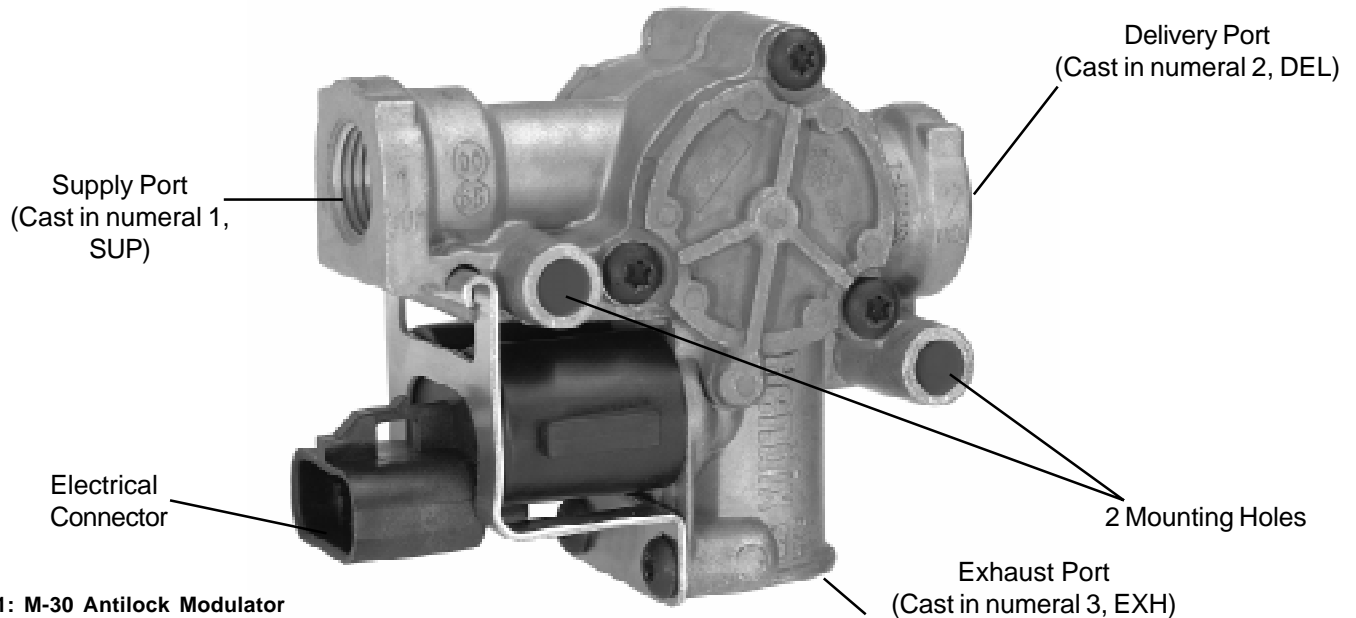

Figure 1: M-30 Antilock Modulator
1. Identify and mark or label all air lines and their respective connections on the modulator to facilitate ease of installation (refer to figure 1).
When replacing a M-21 modulator with a M-30 modulator, the following must be considered during the installation process: Study figures 1, 2, & 3 and note where the exhaust port is located on both the M-21 and M-30. **The exhaust on both modulators must be directed toward the road surface when mounted on the vehicle.** Note that the delivery port (to the brake chamber) for the M-21 is on the same side as the electrical connector. The M-30 is exactly reverse of this with the delivery port on the opposite side of the electrical connector. Note: The position of the Supply Port, Delivery Port, and the modulator Exhaust Port determine how the valve must be mounted, NOT THE ELECTRICAL CONNECTOR. In all cases, the electrical wire harness will need to be rerouted, reconnected to the M-30 and securely fastened.